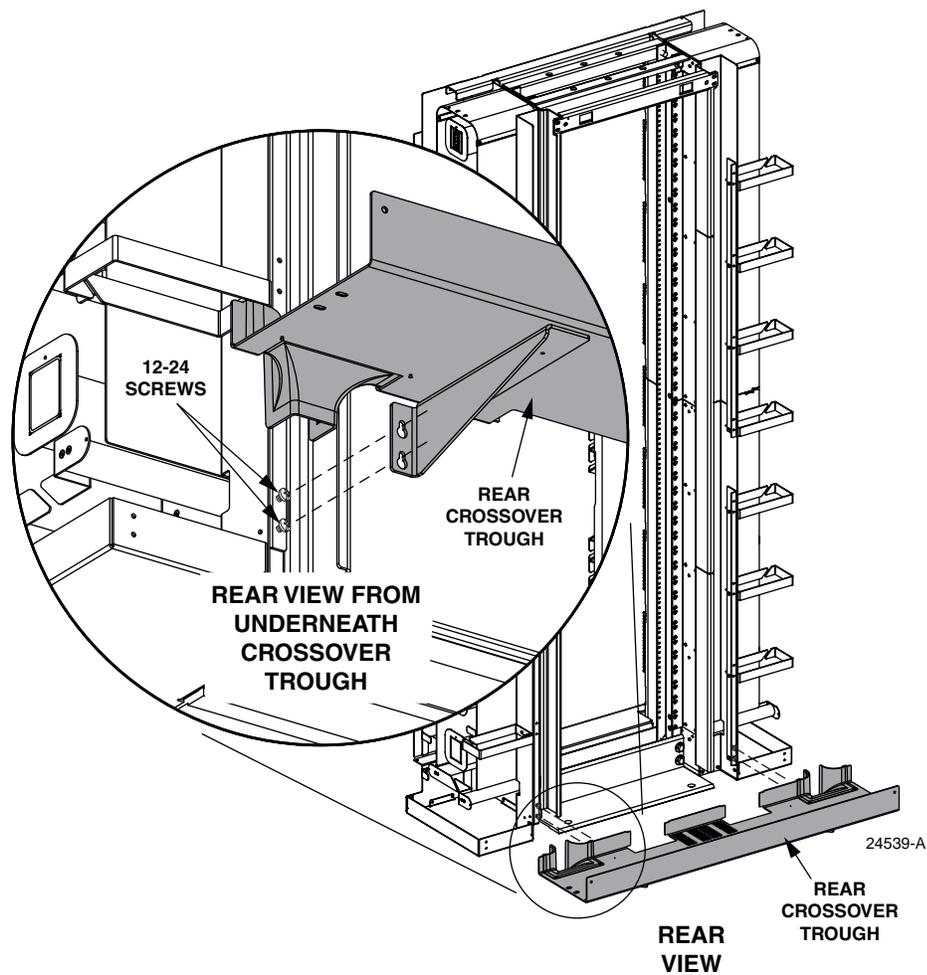

Figure 12. Rear Cable Trough
2. Starting at the top or bottom, hang rear cable trough on the screws. See Figure 12.